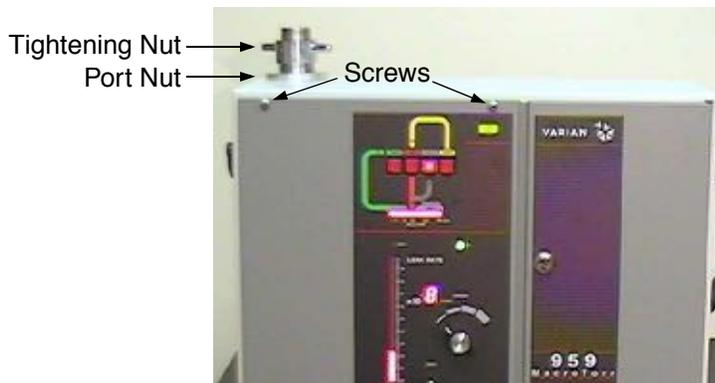

Figure 3-2 Front and Side Views
1. Loosen and remove the test port tightening nut and the port nut (Figure 3-2). Place them on a clean and safe surface.